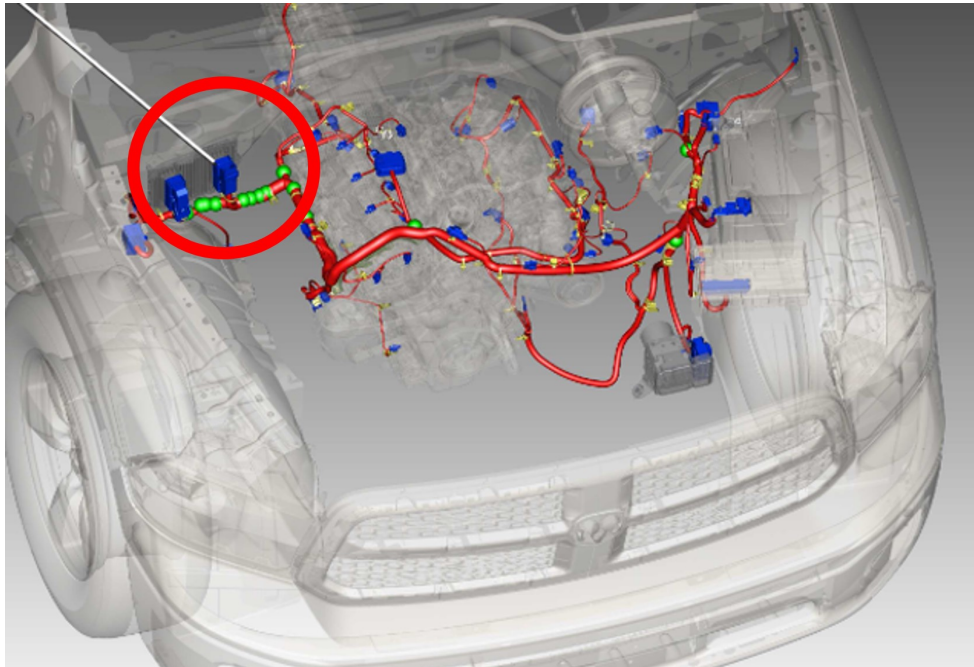

Fig. 1
1. If multiple DTCs are showing up on wiTECH, check the orange PCM inboard connector (Fig. 1) .
3. Remove and re-seat the connector locking it into place (Fig. 1) .
NOTE: Make sure the PCM wiring harness does not interfere when locking the electrical connector (Fig. 1) .